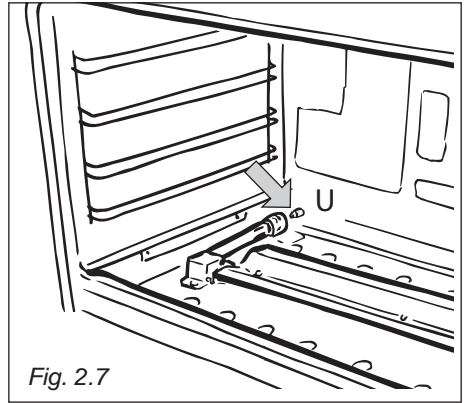

Fig. 2.7
- Using a 10 mm box spanner, unscrew the injector "U" (indicated by the arrow in fig. 2.7) and replace with a new injector selected in accordance with the "Table for the choice of the injectors"; then replace the burner repeating the above steps in reverse order.